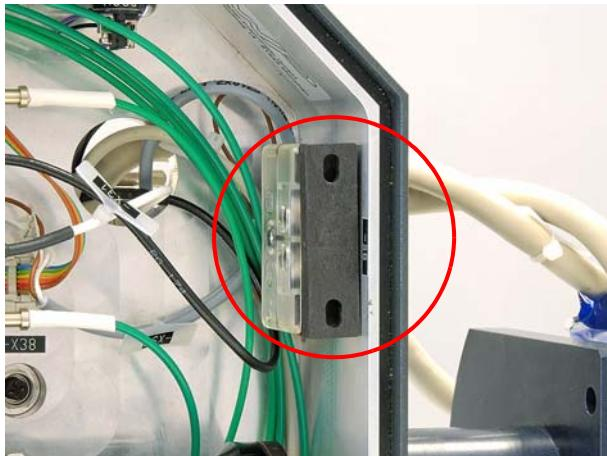

Figure 6.47 Interlock switch bridged
2. Bridge the interlock switch (Figure 6.47).